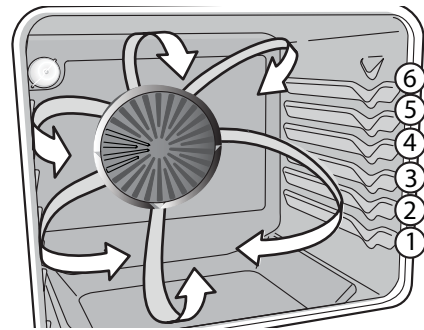

Figure 16: Convection air flow
The convection function uses a fan to circulate the oven heat uniformly and continuously around the oven (Figure 16). This improved heat distribution allows for fast, even cooking and browning results. It also gives better baking results when using two oven racks at the same time.
- For best results when baking cakes using two oven racks, place racks in positions 6 with offset rack and 1 using Glide rack (See Figure 16).